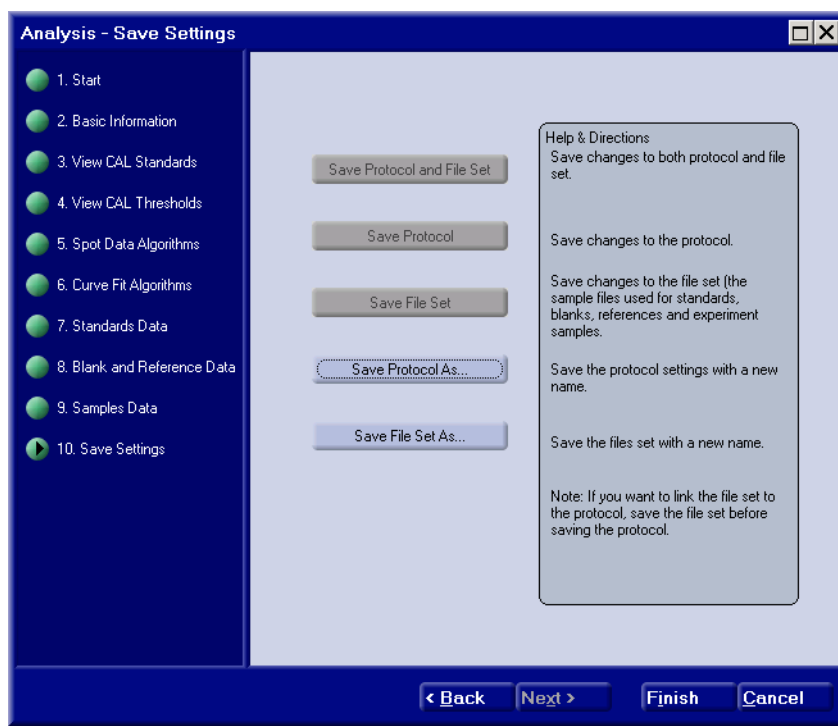

Figure 4-2 The Analysis - Save Settings window
4. Click step 10, **Save Settings** (see Figure 4-2).